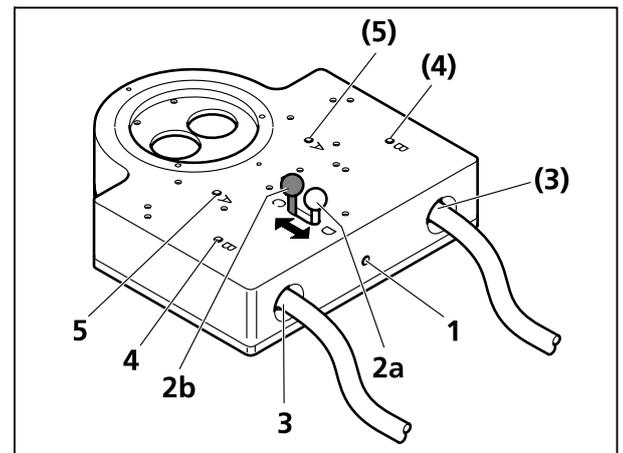

Fig. 19 Coaxial epi-illumination (bottom side)
Screw in the switching lever at the bottom (Fig. 19/2) after fitting the unit to mount S.
Screw in the switching lever at the back (Fig. 19/1) **before** fitting the unit to mount S.
- Move the switching lever backwards to position **D** (Fig. 19/2a) and retain it.
- Insert both light guide arms carefully into the back holes (Fig. 19/3), thread them into the light guide slot and push them to stop.
- Tighten the clamping screws through the drill holes **B** (Fig. 19/4) using the Allen key 3 mm.
To achieve a more homogeneous illumination for magnifications equal to or larger than those indicated in the following table, you can adjust the lever at front position **C** (Fig. 19/2b) without additional vignettation also for **objectives S 1.0x**.